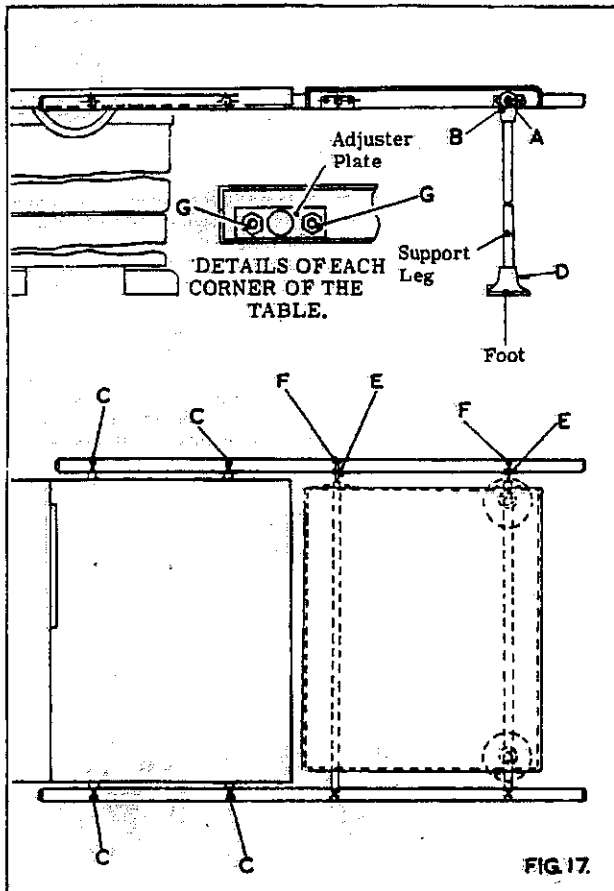

FIG. 17.
A sheet metal extension table can be supplied to fit to the right of the saw as shown in fig 17. This table increases the capacity to the right of the saw to 50" (1270 mm) between the saw and rip fence.
1. Remove parts from parcel and remove protective coating by applying a cloth soaked in paraffin, turpentine or other solvent and assemble as shown in fig 17.
3. Centralise the table with the main table of the machine. Loosen socket head grubscrew "A" in fig 17, and keeping filloes "B" against the inside of the extension table. The whole assembly can slide along the tie bars. When central with main table re-tighten socket head grubscrews "A".